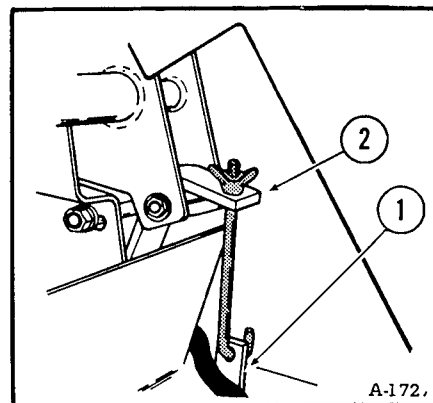

Fig. 1-12 Control Lever Lock
(1) Tilt the ROPS.
(2) Put the hook of the bolt through the tab on the floor (Fig. 1-12, Item 1).
(3) Lift the centering arm. Put the bolt through the hole in the centering arm (Fig. 1-12, Item 2).
(4) Install the wing nut on the bolt. The control lever lock must be installed if engine is to be operated during service.